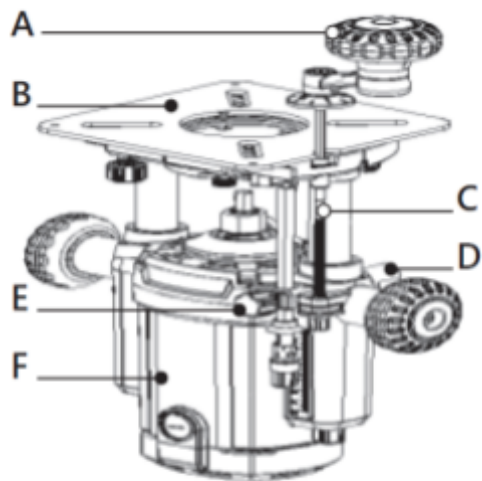

Figure 7
- A. Release the **router depth lock E** (Fig. 7).